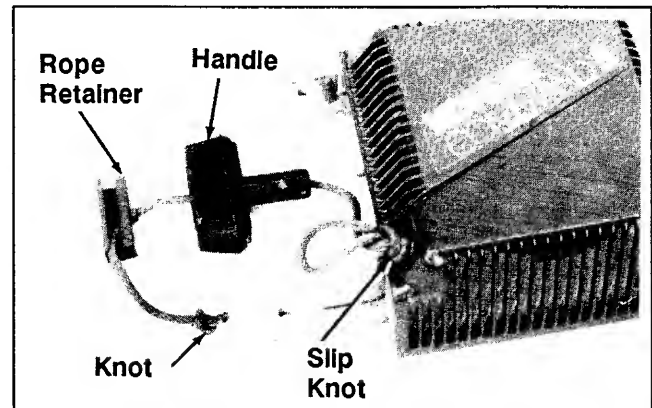

Figure 7-3. Removing Starter Handle.
2. Pull the rope out approx. 12" and tie a temporary (slip) knot in it to keep it from retracting into the starter. See Figure 7-3.